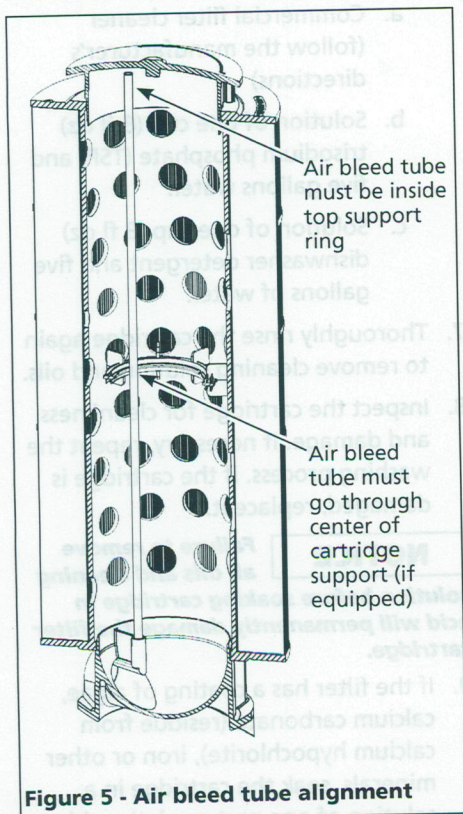

Figure 5 - Air bleed tube alignment
When installing the cartridge in the filter base, ensure the tube is inserted in the center portion of the cartridge support, if equipped (See Figure 5). This will help to ensure the tube is correctly positioned inside the top support ring of the filter housing.
2. Install the filter cartridge in the base of the tank, being careful to avoid the flow diverter in the inlet. Ensure the air bleed tube is correctly installed (Figure 5). Push down firmly to seal the cartridge.
- **Excessive air in filter:** Vent all air from the filter tank and check system for suction pipe leaks or low water level. Also, check and clean air bleed tube (See Figure 5).